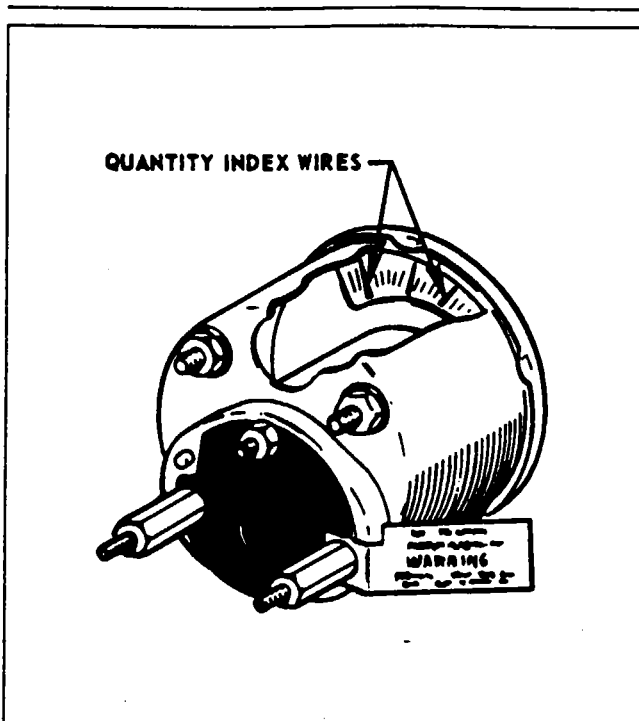

Figure 9-6. Fuel Gauge Adjustment Wires
- c. Remove the light receptacle from the back of the fuel gauge. Note the quantity index wires in the gauge. (Refer to Figure 9-6.)